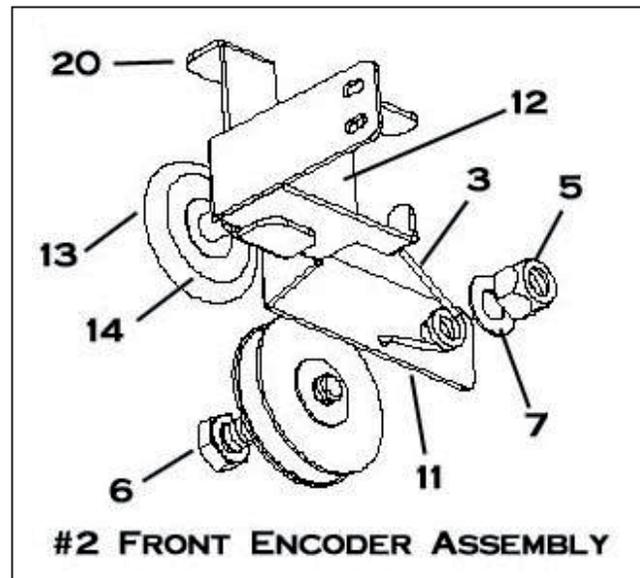

FIGURE 5
6. Reinstall the bolt with the new wheel and tighten into the threaded carriage hole. **Do not over tighten:** this will damage the carriage threads. Next on the protruding end of the bolt place a washer #7, then the Front Encoder Assembly with the black rubber wheel facing the Machine Front. (Towards the wheel just replaced.) (See Figure 5)
7. Place the torsion spring #3 over the bolt with the 90 degree bent end going on first. There is a small hole in the bracket that the coil spring end fits through. Place a washer #7 over the bolt and then tighten a 1/4-20 lock nut #5 over the end of the bolt. Tighten enough to keep the bracket vertical, but not enough that the spring can't compress. Test the installation by lifting the bracket slightly, spring tension should be obvious and return the bracket quickly to the down position. The bracket should snap back down when pushed down then released. Ensure that the stop bracket #20 touches the top of the carriage cross brace when released. (See Figures 5 & 6)